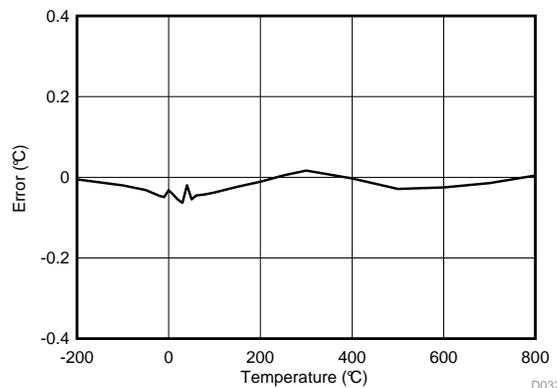

Figure 61. RTD Error Measurement
4. Connect the resistor network to the terminal inputs using the 3-wire connection and perform the actual measurement. The updated temperature point was taken into account to obtain the error shown in Figure 61.